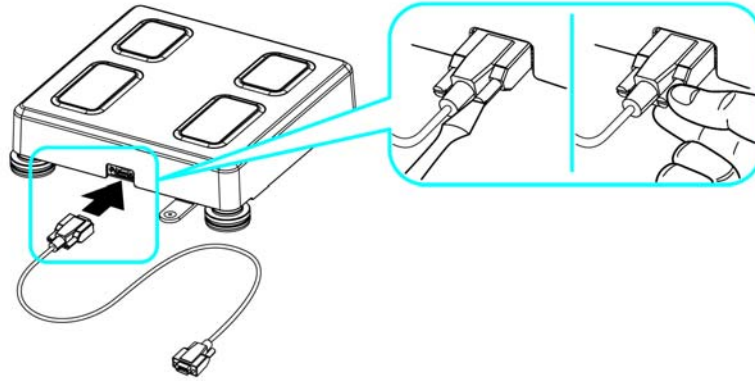

Figure 2. Fasten Weight Scale Cables
1. Connect the DB-9 scale base cable and tighten two bolts as shown in Figure 2